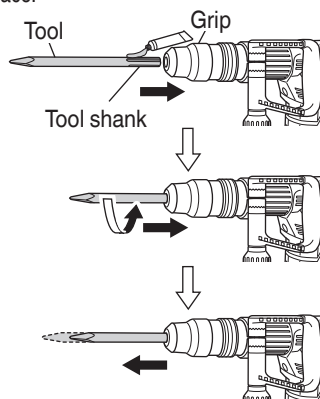

Fig. 2
- (1) Clean, then smear the tool shank with the grease or machine oil.
- (2) To attach the tool (SDS max shank), insert it into the hole until it contacts the innermost end of the hole as illustrated in Fig. 2.
As shown in Fig. 2, pull grip, and pull out the tool.